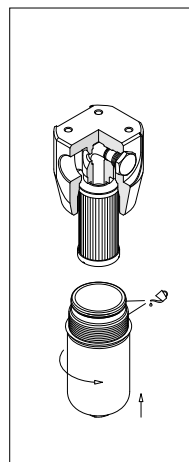

fig. 5
- (Fig. 5) Lubricate the thread and the O-ring of the bowl, then screw the bowl in referring to the tightening torque table in paragraph 3